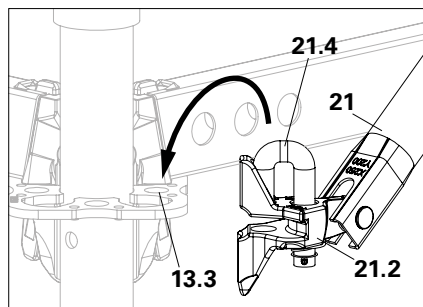

Fig. A4.02c
3. Push the brace head (21.2) with raised bolt (21.4) onto the lower rosette. (Fig. A4.02c)